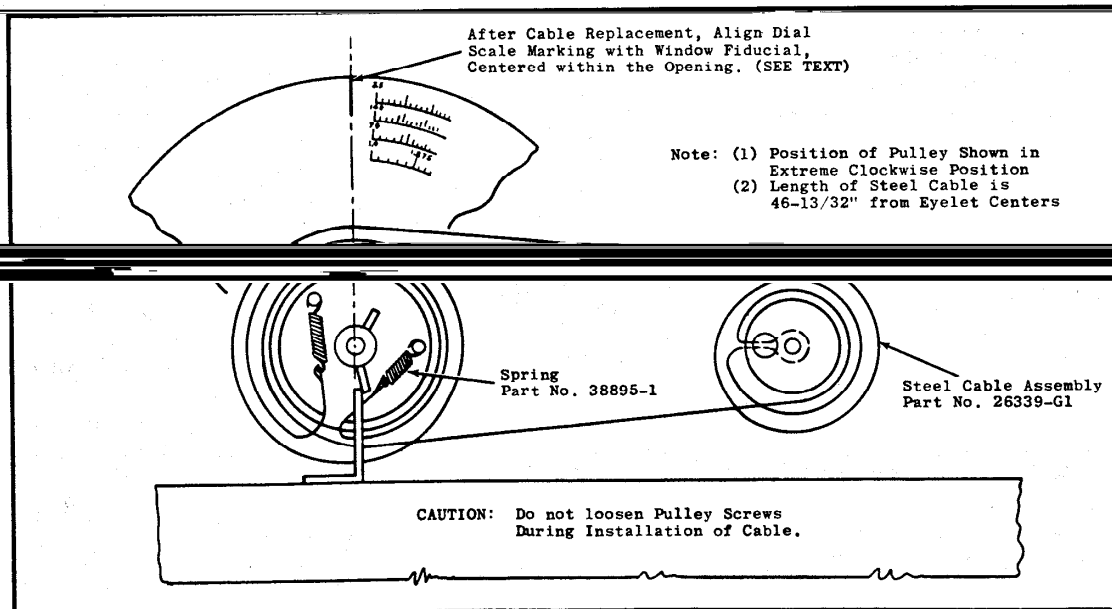

Figure 11. Installation of Dial Cable Assembly
1. Fold the dial cable in half, and insert the bent-loop end into the small hole of smaller pulley and loop the dial cable around the shaft (see figure 11).
2. Wrap one half of the dial cable around the smaller pulley for $\frac{3}{4}$ of a turn in a clockwise direction. Guide this half of the cable underneath the larger pulley and wrap around the large pulley one (1) complete turn clockwise then hook the spring to the hole on the right side (see figure 11).
6. Fasten the Front Panel Assembly to the chassis by means of the (3) oval headed screws,